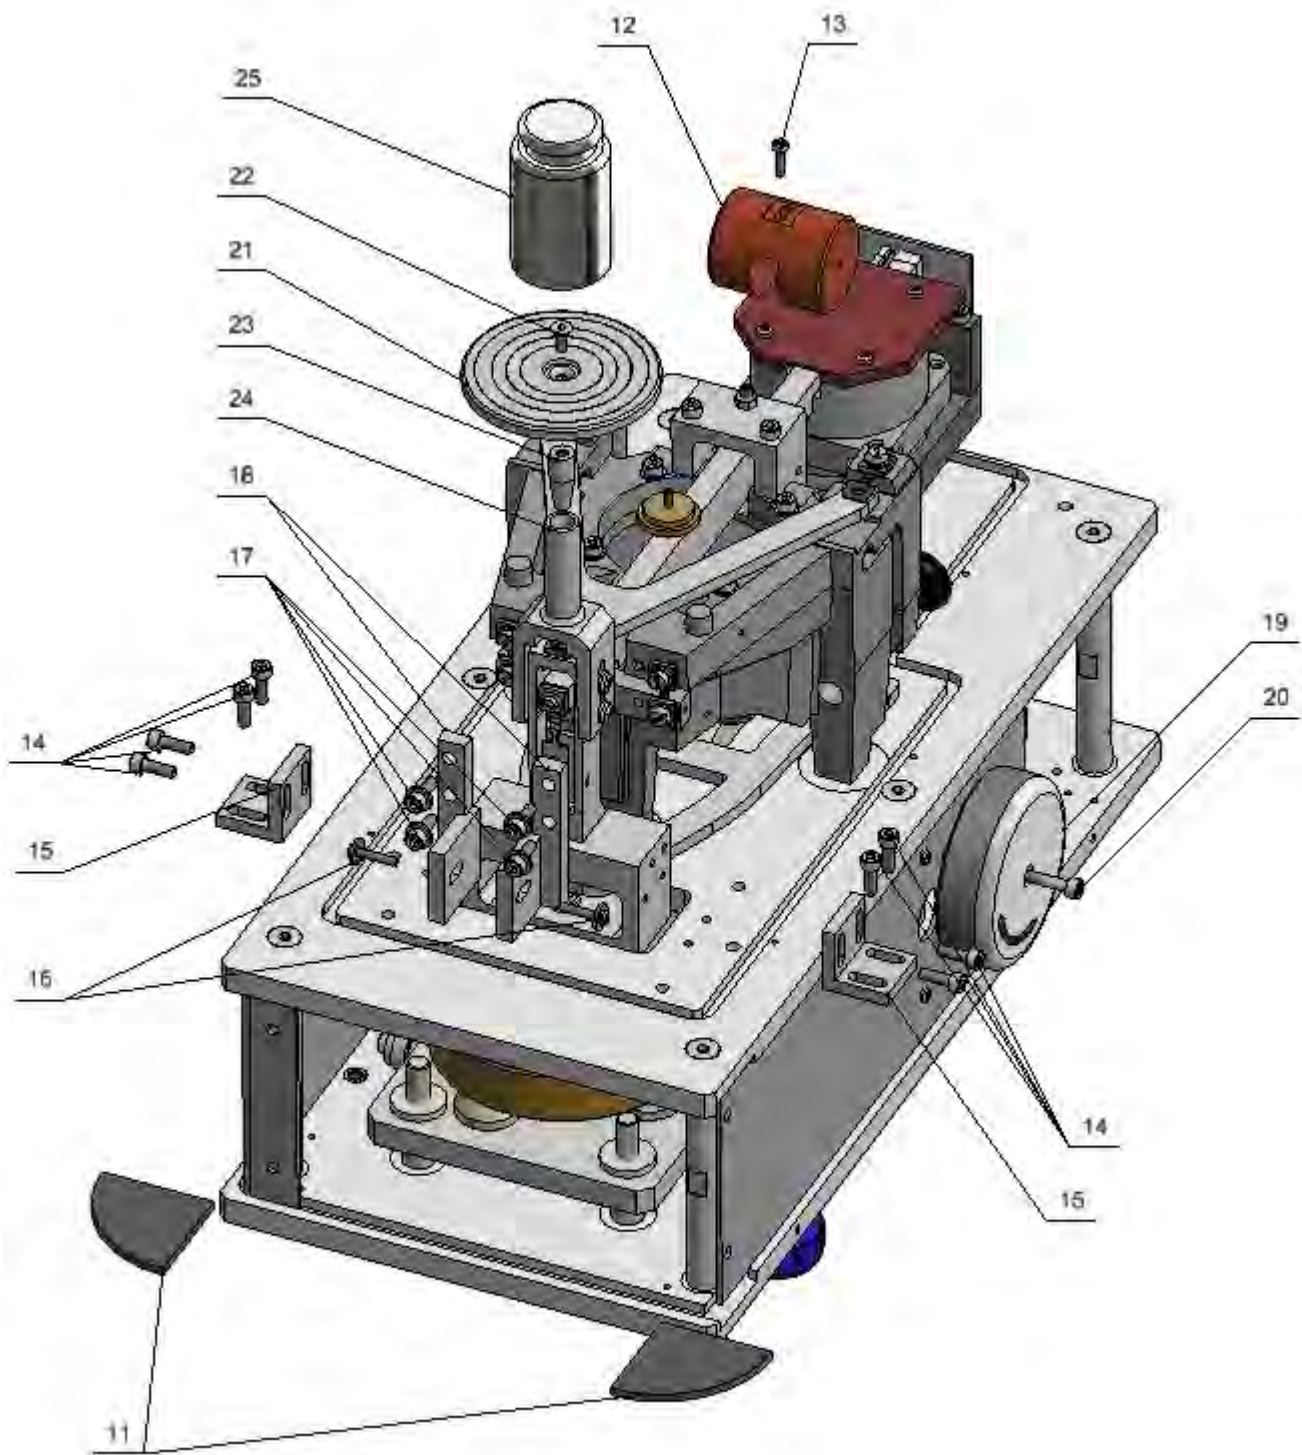
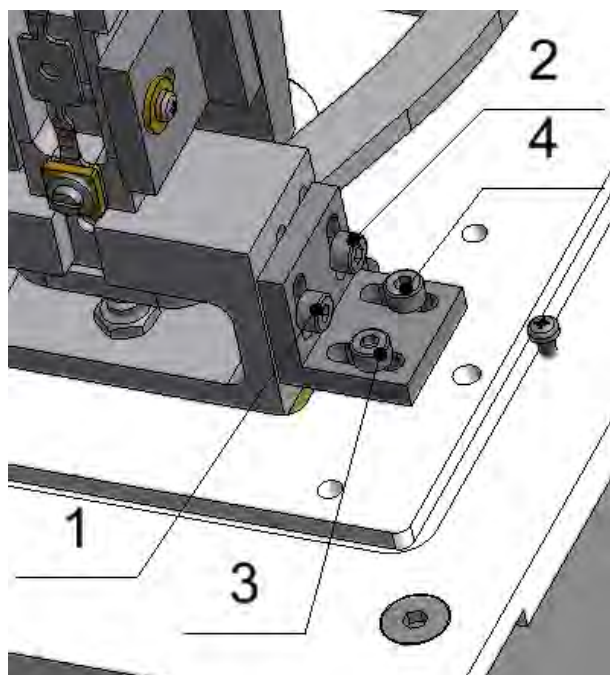
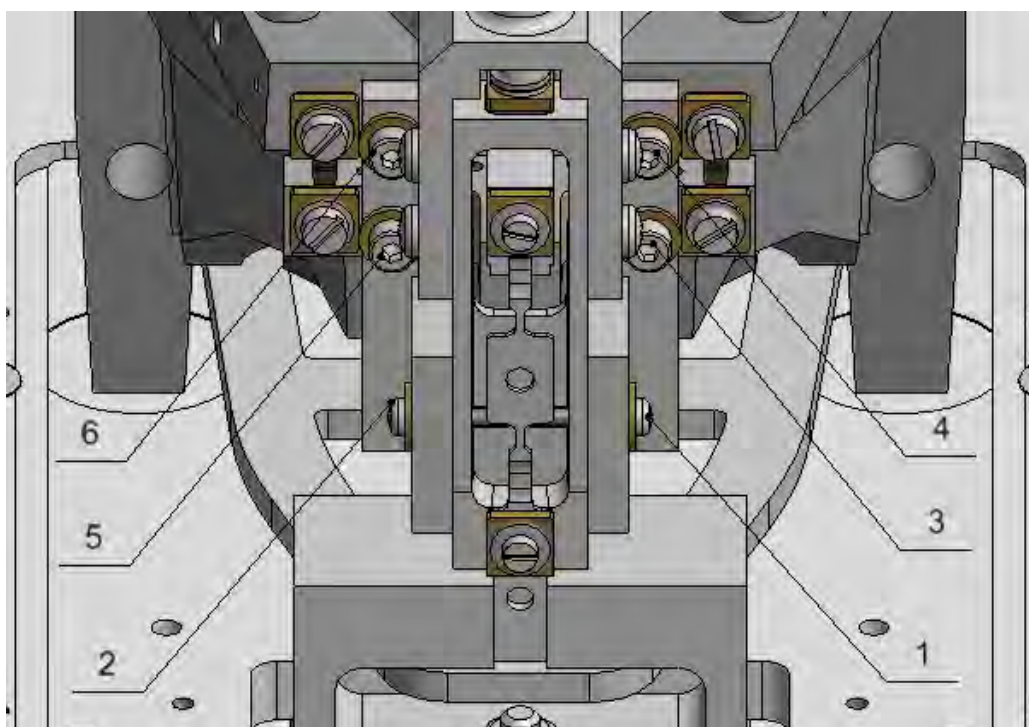

Fig. 3
Fig. 4
Fig. 5
11. Remove foam inserts (11) placed between ballast weights. (Fig. 3)
12. Using M3 screw (13) ballast the lever (12). Perform this action carefully following instruction lines marked on a lever, while screwing do not let the lever move from side to side, this could cause tension of vertical flexure. (Fig. 3)
- 13.1 Undo four M4 screws (14), keep to the order presented in figure 4, next remove interlocking (15). (Fig. 3)
- 14.1. Undo two M3 bottom screws (16), (Fig. 3), next loosen four M4 screws (17), (Fig. 3), keep to the order presented in figure 5. Be careful so as not to cause any damage of vertical flexures.
- 14.2 Undo four M4 screws (17), (Fig. 3), remove interlocking of the rocker (18). (Fig. 3)
15. Using M4x30 screw (20), install knob (19). To make sure that the weights are set to max load position try to turn the knob left, keep turning until the knob resists. (Fig. 3)
16. Check ballast weights position by turning the knob (19) maximally to the left and to the right. (Fig. 3)
17. Turn the knob (19) to its maximum extent.
- 18.1. Using M4x10 screw (22) fix the weighing pan (21) to a mandrel (23), next place such complex set on a vertical rocker extension (24). (Fig. 3).